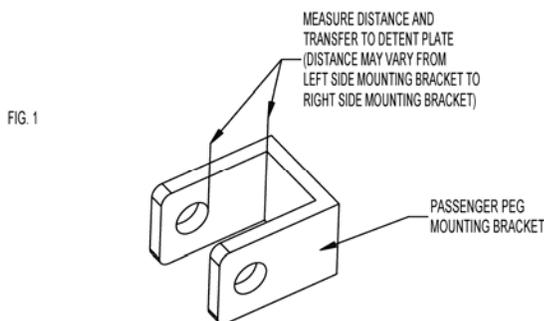

FIG. 2
4. USING A FILE FINE TUNE THE DETENT PLATE (L) BY FILING DOWN THE FLAT END OF THE DETENT PLATE (L) UNTIL THE HOLE IN THE DETENT PLATE (L) ALIGNS WITH THE HOLE IN THE MOUNTING BRACKET AND THE FLAT END OF THE DETENT PLATE (L) IS FLAT AGAINST THE BACK OF THE MOUNTING BRACKET.
5. SLIDE THE UNIVERSAL PASSENGER STEM (H) INTO THE PASSENGER-MOUNTING BRACKET AND REINSERT THE OEM PIN (A). THEN MEASURE THE DISTANCE BETWEEN THE BACK OF THE UNIVERSAL PASSENGER STEM AND THE BACK OF THE PASSENGER MOUNTING BRACKET WHEN THE TOP OF THE UNIVERSAL PASSENGER STEM (H) AND THE PASSENGER MOUNTING BRACKET ARE PARALLEL.
6. IF THERE IS A GAP BETWEEN THE BACK OF THE UNIVERSAL PASSENGER STEM (H) AND THE PASSENGER MOUNTING BRACKET PULL THE UNIVERSAL PASSENGER STEM (H) OUT OF THE PASSENGER MOUNTING BRACKET AND USING A 2.5MM ALLEN WRENCH INSTALL THE TWO SET SCREWS (M) INTO THE TWO HOLES IN THE BACK OF THE UNIVERSAL PASSENGER STEM (H) AND ADJUST THEM SO THE SCREWS STICK OUT THE NOTED DISTANCE FROM STEP 4. IF THE ANGLE OF THE UNIVERSAL PASSENGER STEM (H) IS NOT TO YOUR PREFERENCE REMOVE THE PEG PIN AND ADJUST THE SET SCREWS (M) ACCORDINGLY. MAKE SURE THAT BOTH SET SCREWS STICK OUT THE SAME DISTANCE.
7. SLIDE THE SPRING (N) AND BALL (O) INTO THE SMALL HOLE IN THE UNIVERSAL PASSENGER STEM (H) AND PLACE THE DETENT PLATE (L) OVER THE BALL WITH THE FLAT END OF THE DETENT PLATE (L) PARALLEL WITH THE BACK OF THE UNIVERSAL PASSENGER STEM (H). IF THE PIN REMOVED IN STEP 1 WAS 6MM IN DIAMETER INSERT THE BUSHING (F) INTO THE PINHOLE IN THE PASSENGER STEM (A) AND IF THE PIN WAS 8MM DISREGARD THE BUSHING (F). ALSO, IF THE PASSENGER MOUNTING BRACKET IS WIDER THAN THE UNIVERSAL PASSENGER STEM (H) USE WASHERS (G), ON THE OPPOSITE SIDE AS THE DETENT PLATE (L), TO SHIM UNTIL TIGHT.
8. THEN INSERT THE UNIVERSAL PASSENGER STEM (H) INTO THE PASSENGER MOUNTING BRACKET AND REINSERT THE OEM PEG PIN (A). SEE FIGURE 2.
9. SLIDE THE SLIDER STEM ADAPTER (J) AND CRUISER BOARD (E) OVER THE UNIVERSAL PASSENGER STEM, ROTATE CRUISER BOARD (E) TO DESIRED LOCATION, THEN INSERT THE 5/16-18 BUTTON SOCKET HEAD CAP SCREW (K) AND TIGHTEN.